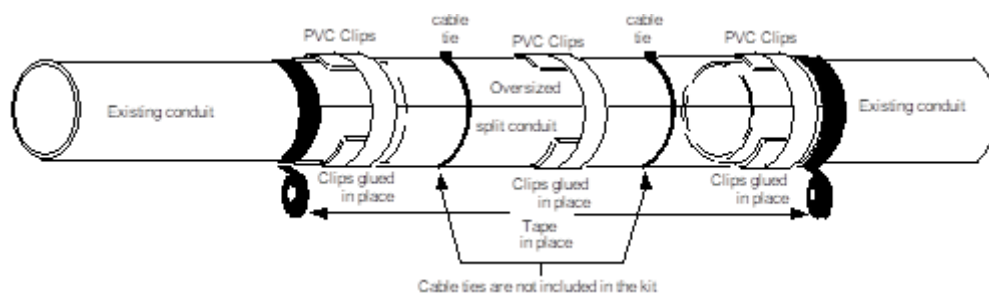

Figure 8 - Assembled kit taped in place.
- Tape around the kit at each extremity, this will stop the kit moving out of place until the glue has set as shown in Figure 8.